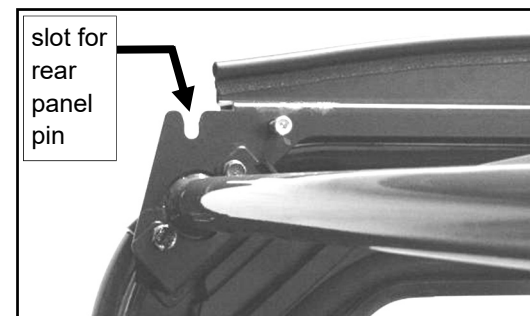

Fig. 3.4 (view of upper rear driver's side)
3.4 Orient the rear panel assembly with striker pins toward the inside of the cab. Hook the two upper pins into the receiving slots in the rear of the upper mounts that are shown in figure 3.4. Connect the rear panel lower tabs to the three rear panel lower mounts with 1/4-20 x 3/4" flanged hex head bolts and nuts. Be sure top pins are fully seated and tighten the three bolts of the lower mount assembly.